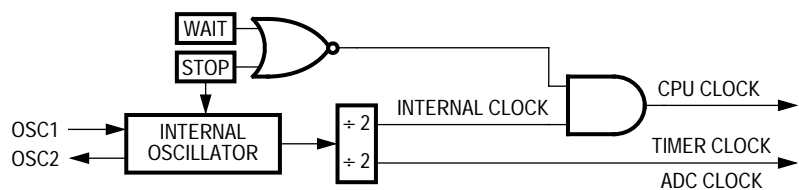

Figure 27. STOP/WAIT Clock Logic
**Figure 27** shows the effect of the STOP and WAIT instructions on the CPU clock and the timer clock.